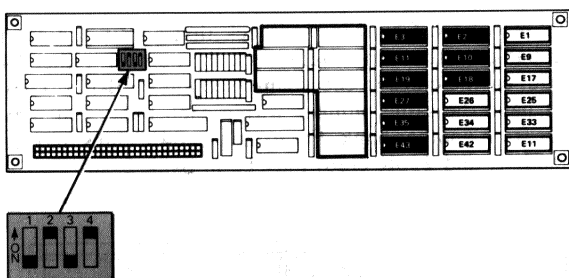

Figure B-13 Switch Location with Typical Settings
B.2.2.7 Check Memory Board Switch Setting – Check the memory board switch for the correct setting as shown in Figure B-13. Go to Paragraph B.3 to check your switch settings or check your switches with the following table.